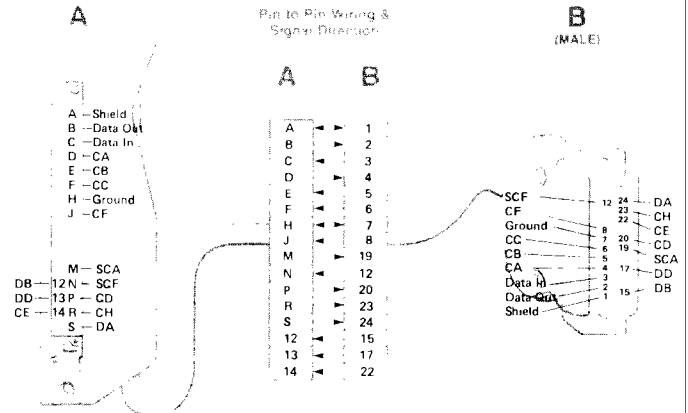

Figure 1-6. Connecting the Terminal to the HP 250 Computer System
To connect the HP 2647A terminal to the HP 250 Computer System, refer to figure 1-6 and perform the following:
6. Connect the following cables (see figure 1-6):